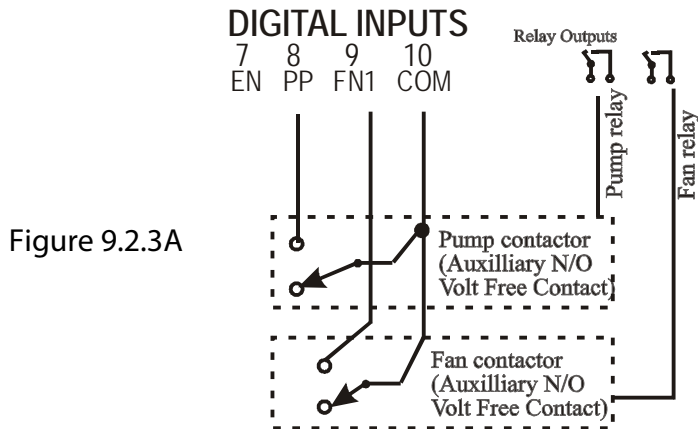

Figure 9.2.3A
9.2.3.1 The wiring arrangements for various Fan & Pump CT Type Inputs are shown in Figures 9.2.3A & 9.2.3B below.
9.2.3.2 Figure 9.2.3A shows the 852 wiring arrangement for contact type input where both Fan and Pump are used.